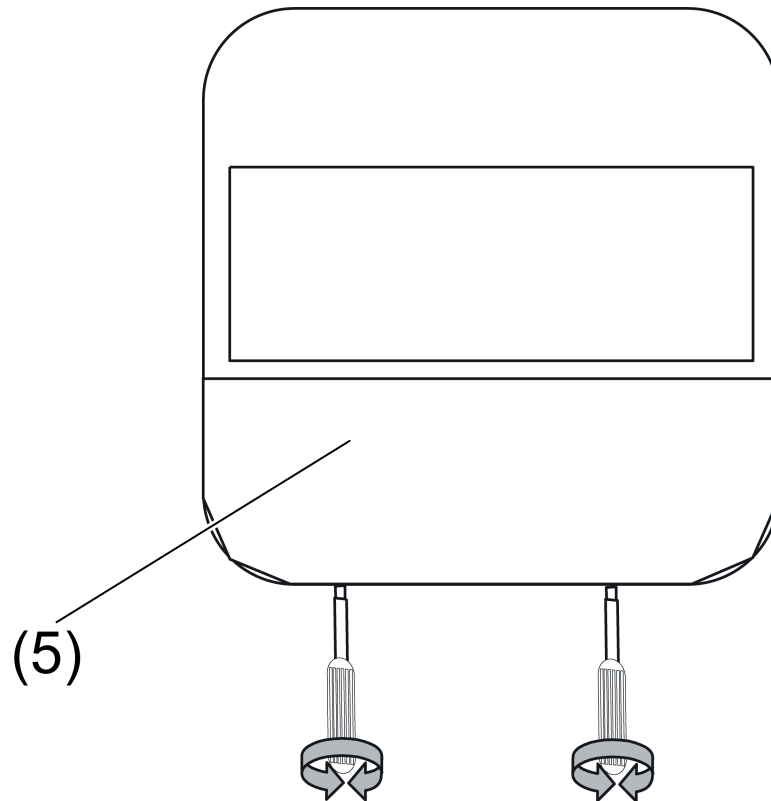

Figure 15: Dismounting of slide switch
- Remove the cover from the slide switch (5) (figure 15).
- Screw the locking screw (10) in the hole (9) of the slide switch.